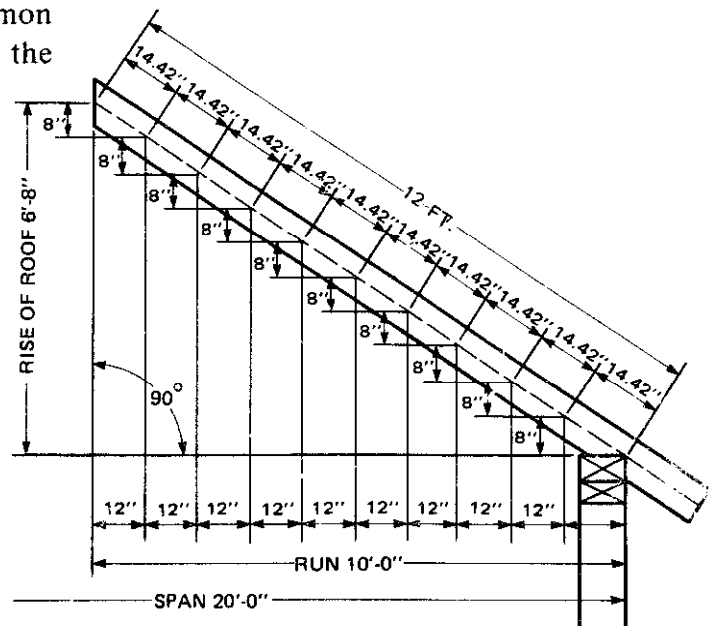

Fig. 3-7 Finding the total length of the rafter
3. Since the length of the rafter per foot run equals 14.42 inches, the total length of the rafter is 14.42 multiplied by 10. This equals 144.20 inches, or $144.20 \div 12 = 12.01$ feet or, rounded off, 12 feet. See figure 3-7.